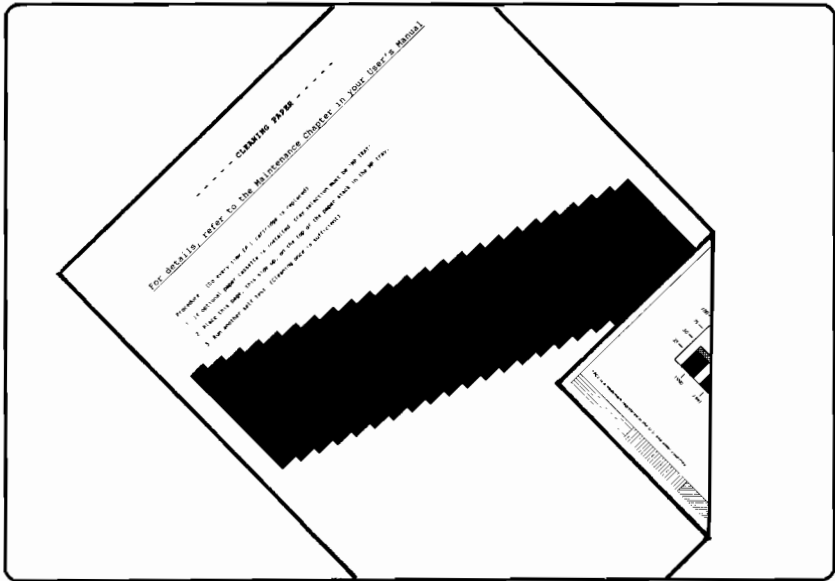

Figure 4-3. Correctly Used Cleaning Paper
8. Check to be sure the self test printout was printed on the back of the Cleaning Paper when it exited the printer (see Figure 4-3).